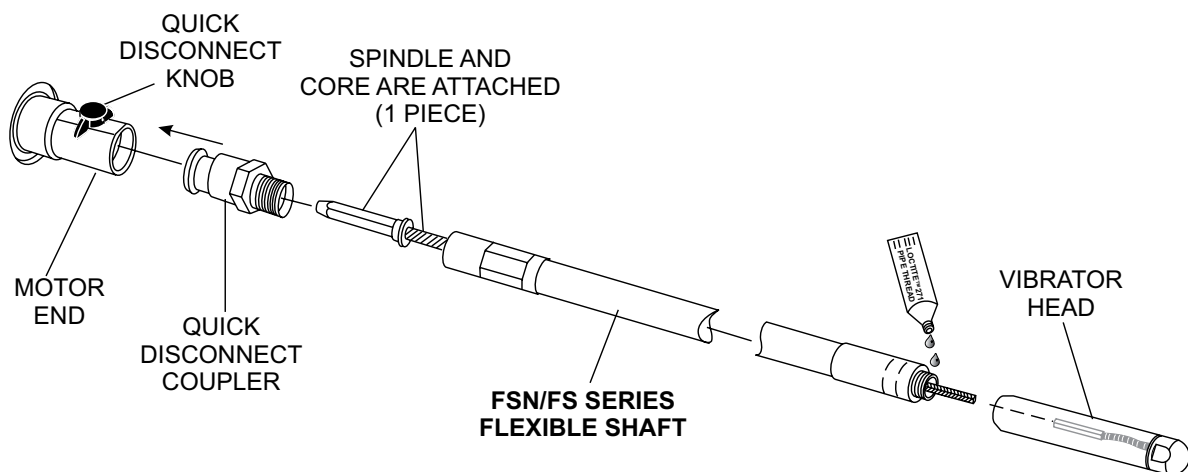

Figure 4. Attaching Vibrating Head to Flexshaft
1. Locate appropriate coupler and spindle for desired flex-shaft. See Figure 4.
2. Apply a ring of anaerobic sealant (Loctite™ No. 271) to flexshaft threads as shown in Figure 4.
3. Insert coupler and spindle into flexshaft as shown in Figure 4.
4. Attach vibrator head onto flexshaft as shown in Figure 4.